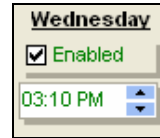

Figure 17.2.28
- Select an **Enabled** box for the day that you want the Master Valve Override to occur on (Figure 17.2.28).